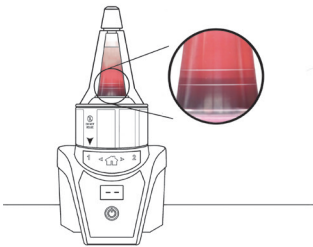

Figure 9
- To stop the red blood cell removal mode, rotate the Disposable Unit ▼ to the Home Position 1 when the border between the red blood cell and plasma sections of the blood is between the red blood cell removal stop lines (two horizontal markings) on the Disposable Unit (Figure 9).